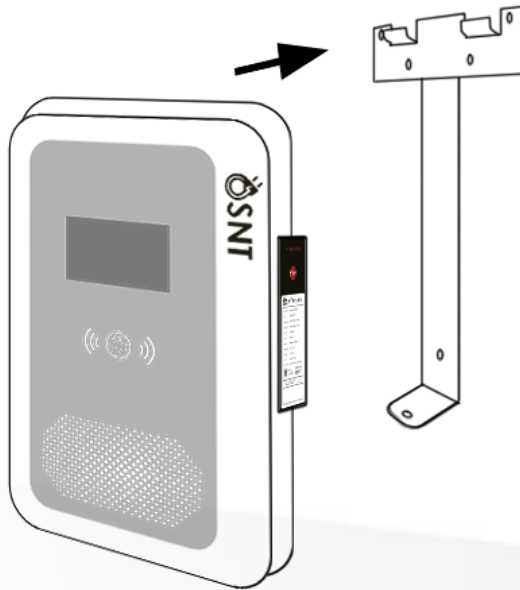

Fig.3
- a. Use mounting bracket and leveler tool to mark out the mounting position, as shown in Fig.3